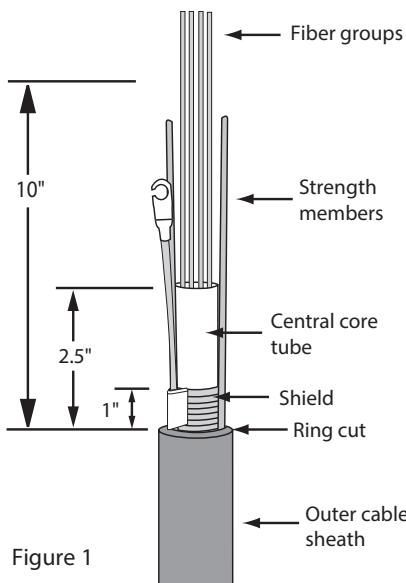

Figure 1
1. Clean the cable and remove the outer cable sheath (remove 70" for a FOSC 400 D5 closure, 48" for B2 closures). Remove the aramid and fiber yarns. Remove all but 1" of the metal shield (if present). (Fig. 1)
3. Cut the central core tube 2-1/2" from the ring cut(1-1/2" beyond the metal shield if present) and remove the excess tube. (Fig. 1)